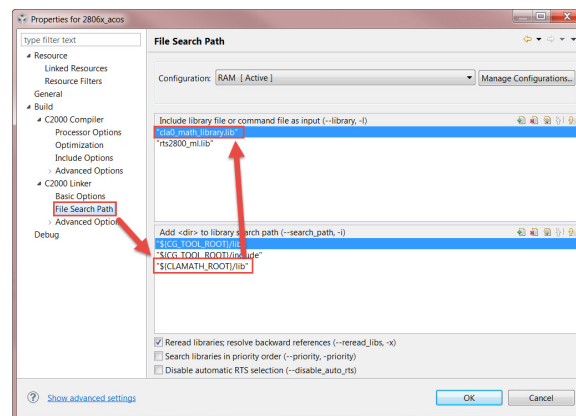

Figure 4.9: Adding the library and location to the file search path
5. Add the name of the library and its location to the **File Search Path** as shown in Fig. 4.9.